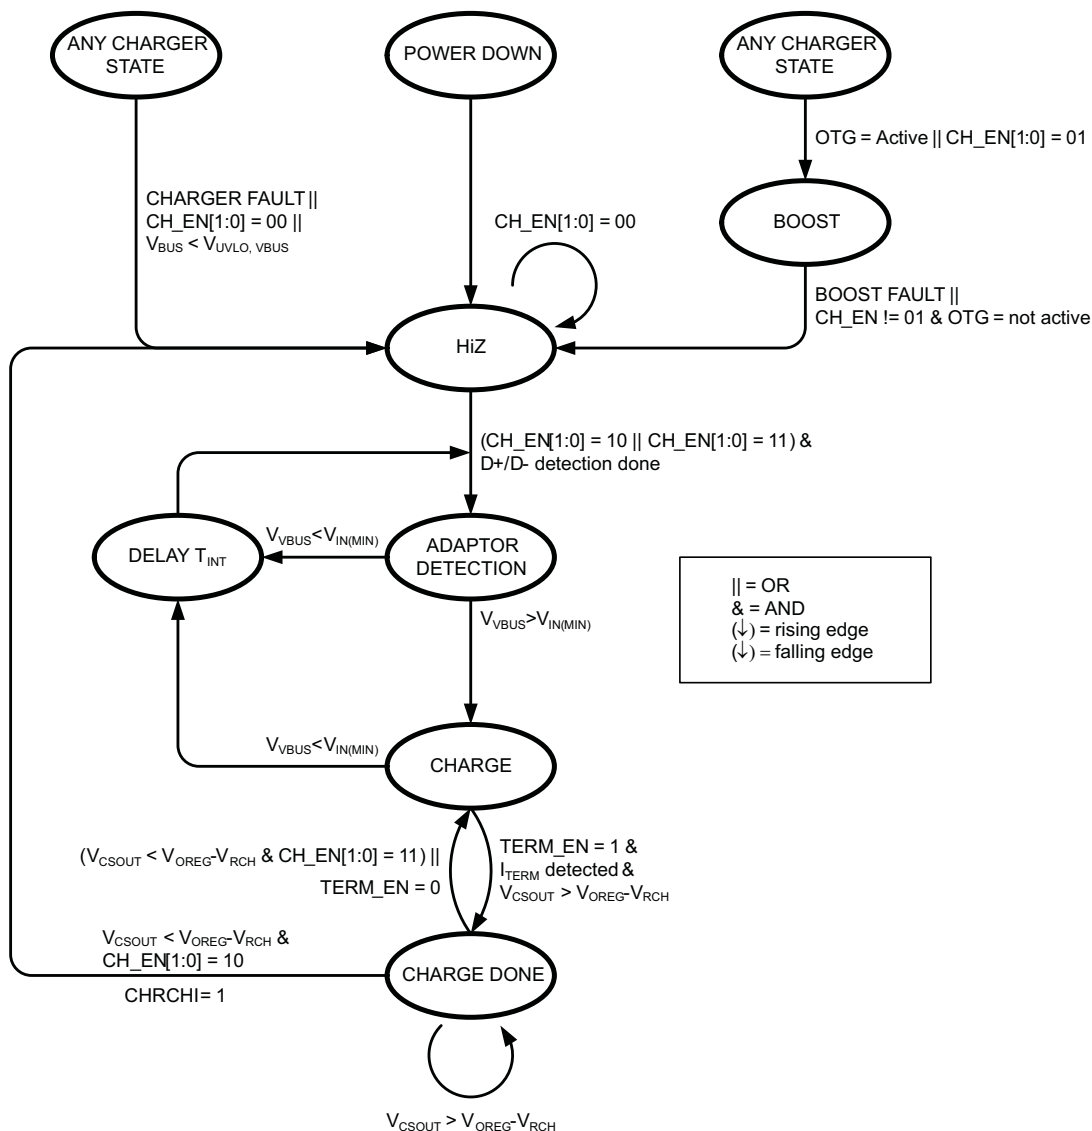
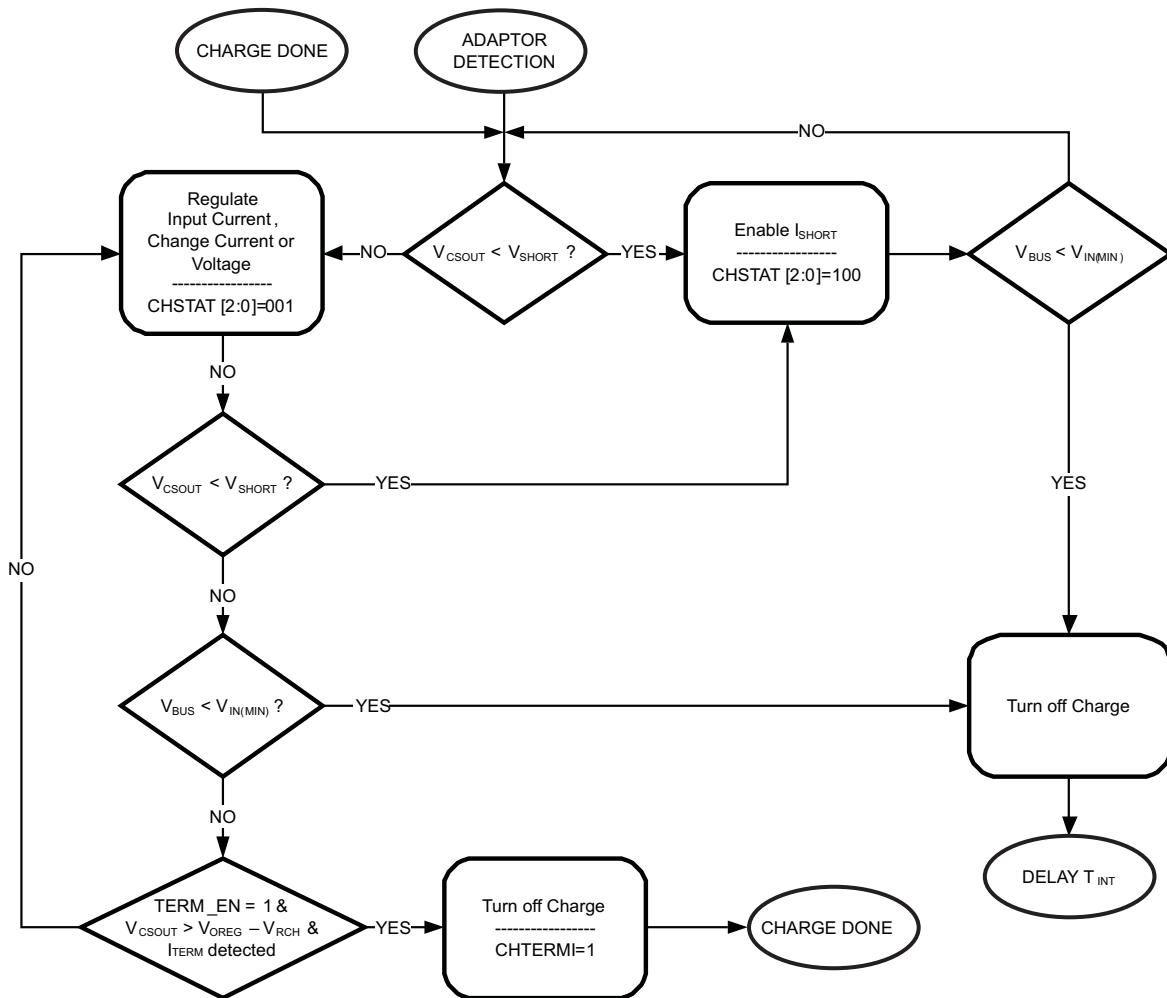

Figure 40. State Diagram of USB Charger Circuit
Figure 41. Detailed Charging Flow Chart
The global state diagram of the charger is shown in Figure 40 and the detailed charging algorithm in Figure 41. HiZ mode is the default state of the charger where Q1, charger PWM and boost operation is turned off. If any fault occurs during charging, the CH_EN[1:0] bits in the CONTROL register are reset to 00b (OFF), fault bits are set in the INT2 register, an interrupt is issued on the INT pin, and HiZ mode is entered. Charging is re-initiated by either host control or automatically if VBUS is power cycled.
- The device is in CHARGE DONE state (see Figure 40) and the `TERM_EN` bit is set from 1 to 0.